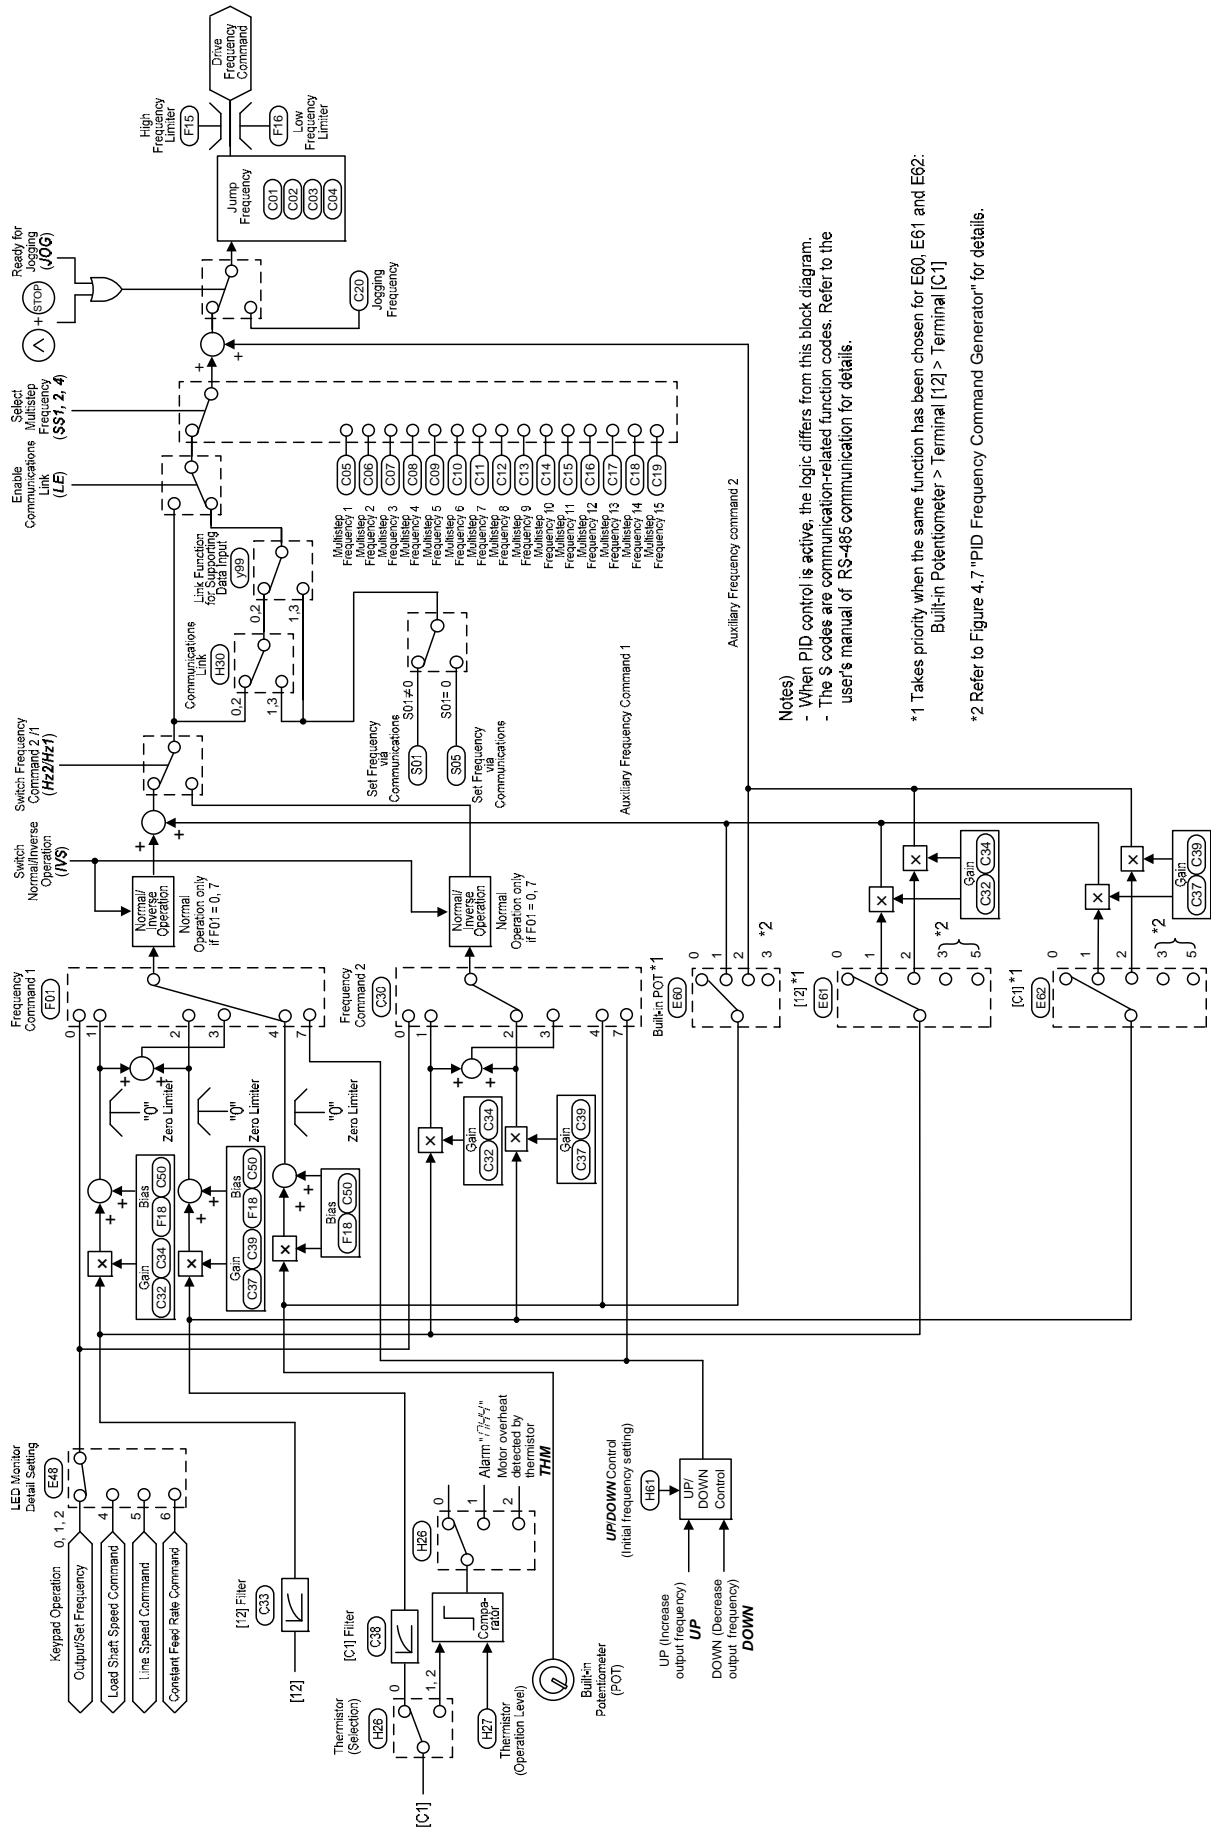

Figure 4.1 Block Diagram for Drive Frequency Command Generator
Figure 4.1 shows the processes that generate the final drive frequency command from the frequency settings given by various means and those switched/modified by function codes. If PID process control takes effect (J01=1 or 2), the drive frequency generation will differ from that shown in this diagram. (Refer to Section 4.8 "PID Frequency Command Generator.")
*2 Refer to Figure 4.1 "Block Diagram for Drive Frequency Command Generator" for details.